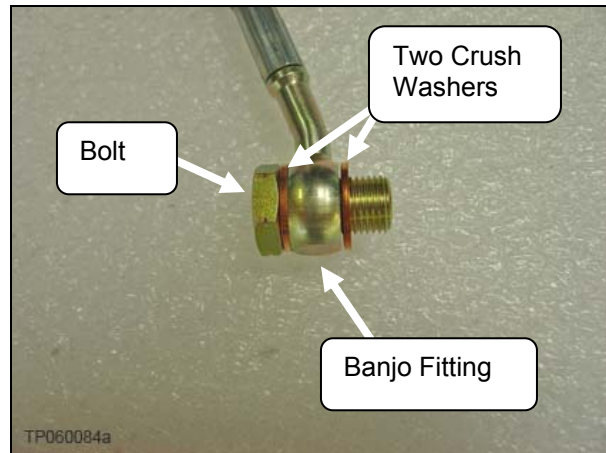

Figure 1
5. Install two crush washers and the bolt on the banjo-fitting-end of the brake hose (see Figure 1).